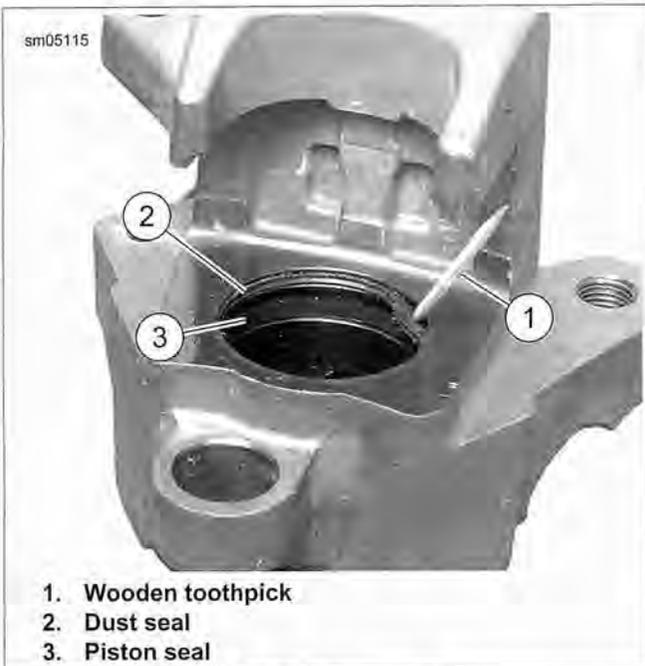

Figure 2-106. Caliper Seals
9. See Figure 2-106. Using a wooden toothpick (1), remove dust seal (2) and piston seal (3) from caliper bore. Discard seals.